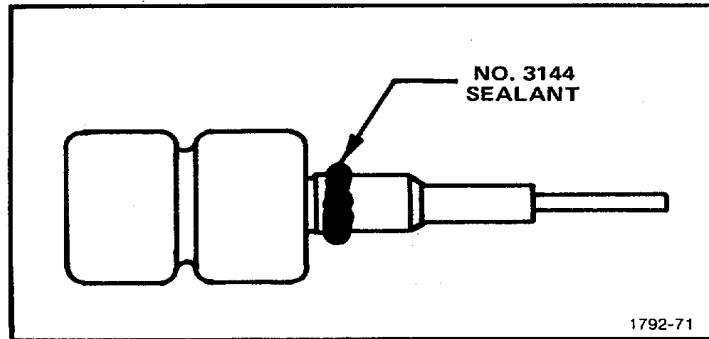

Figure 5-18. Application of sealant to FINE control bushing
**18. Install FINE POSITION control (See Figs. 5-18 and 5-19)**
1. Form a bead of No. 3144 sealant around the bushing threads as shown in Fig. 5-18.